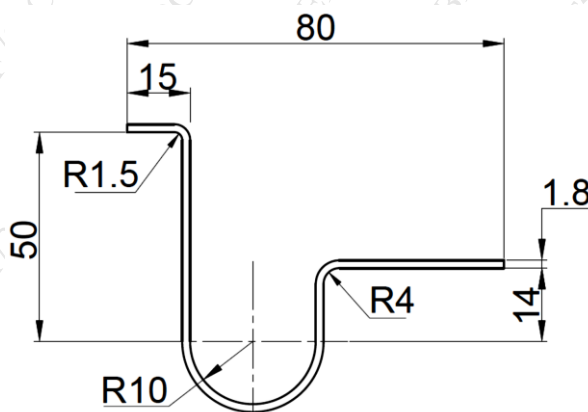

Figure 2
- (b) Explain Strap Clamps used in Jigs & Fixtures. (5)
- (c) Explain Turnover drill jigs. (5)
Q. 3. (a) Mention briefly main steps in designing a Drill Jig. Describe important (10)
- (b) Find out developed part length for the bent component shown in **Figure 2**. (5)